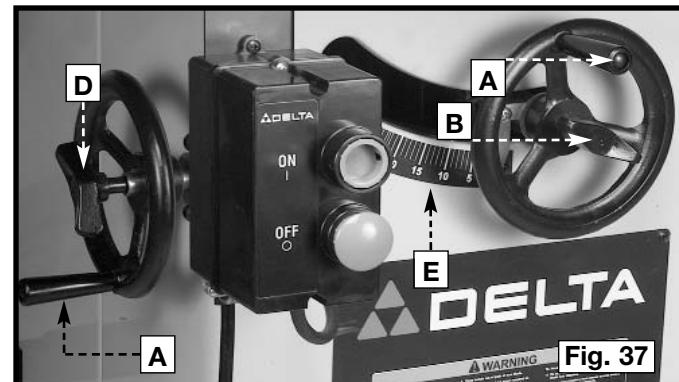
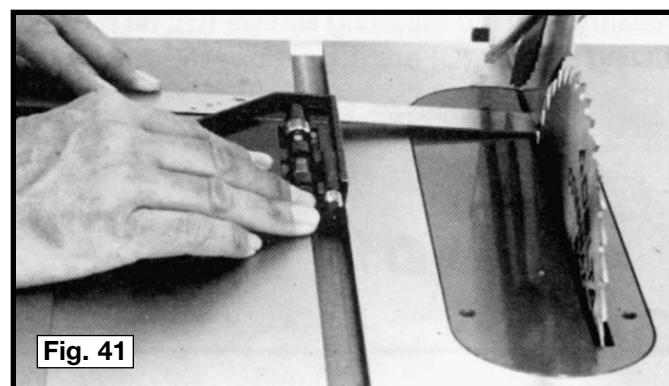

Fig. 37
Fig. 41
Raise or lower the saw blade with the front handwheel (A) Fig. 41. With the exception of hollow ground blades, raise the blade 1/8" to 1/4" above the top surface of the workpiece. Raise hollow ground blades the maximum amount to provide greater clearance. To raise the saw blade, loosen the lock knob (B) Fig. 37, and turn the handwheel (A) clockwise. To lower the saw blade, turn handwheel (A) counter-clockwise.
You can lock the saw blade at any height by turning the lock knob (B) Fig. 37 clockwise. Due to the wedge action of this locking device, only a small amount of force is required to lock the blade height adjustment securely. Added force merely puts unnecessary strain on the locking device. Limit stops for raising or lowering are permanently built into the mechanism and need no further adjustment.
To tilt the saw blade to the desired angle, loosen the lock knob (D) Fig. 37, and turn the handwheel (C). A pointer indicates the angle of tilt on scale (E), which is marked in one-degree increments. To lock the saw blade, tighten the lock knob (D).